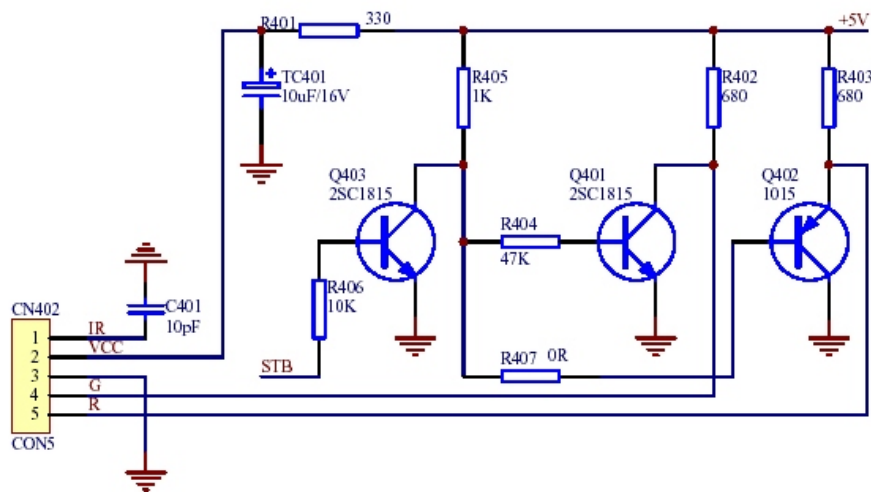

Figure 3.2.5.1 Working state indication circuit diagram
(1) Working state indication circuit is shown in the figure 3.2.5.1: